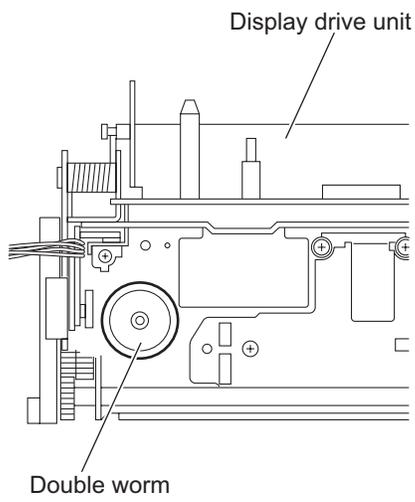

Fig.11
- From the top side of the display drive unit, pull the double worm in an upward direction. (See Fig.11.)